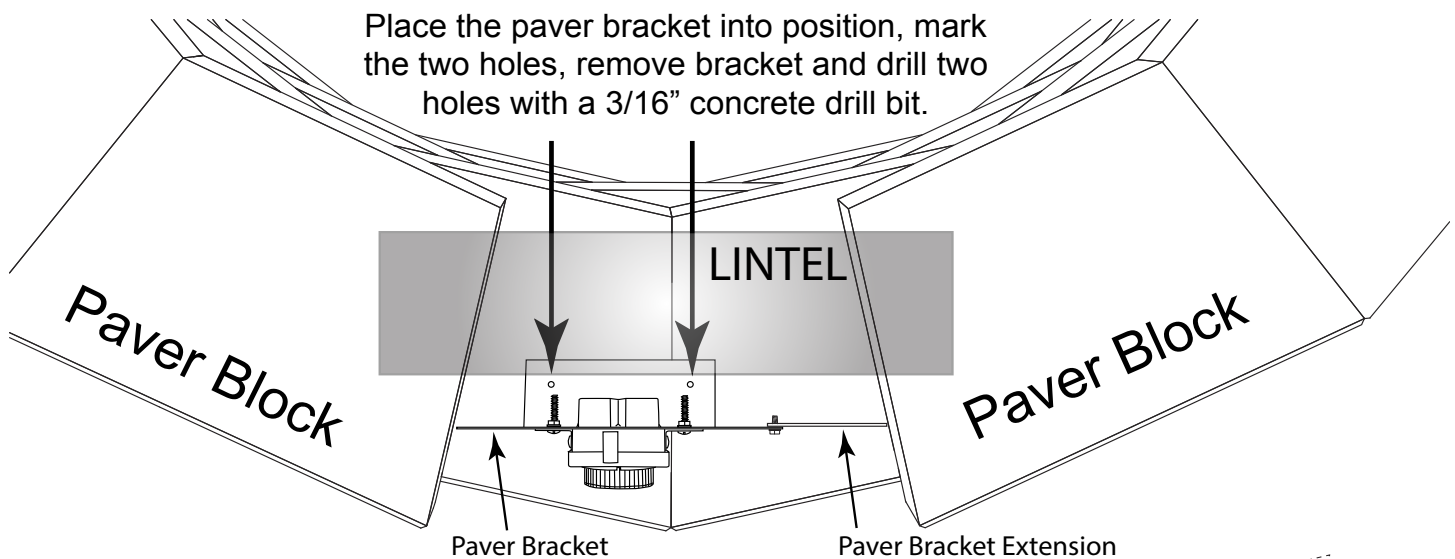

Fig. 5 Shows mounting paver bracket into place on paver block.
The paver bracket extension installs behind the paver bracket lip and is secured with the two hex head  $\frac{5}{16}$ " screws; one screw at top and one on the bottom. See Figs. 5 and 6. It is used to fill the gap next to the paver bracket for a complete finished look. In some applications the extension is not needed and can be discarded.
Place the lintel across back side of the paver block after you have secured the paver bracket to support your next row of blocks. See the shaded area in Fig. 5 showing the placement of the lintel. Securing the lintel with some type of adhesive is optional.
**Step 5:** The paver bracket extension can be used to extend the bracket from 8 inches wide up to  $11\frac{3}{4}$ " wide if necessary. The holes in the bracket extension allow for  $\frac{1}{2}$ " increments for width adjustment. Figs. 5 and 6 show the extension in the properly oriented position. If the extension bracket mounts behind the paver bracket with two  $\frac{5}{16}$ " hex screws. If it is too wide, there are perforated areas that allow you to bend and break off if the entire width is not needed.